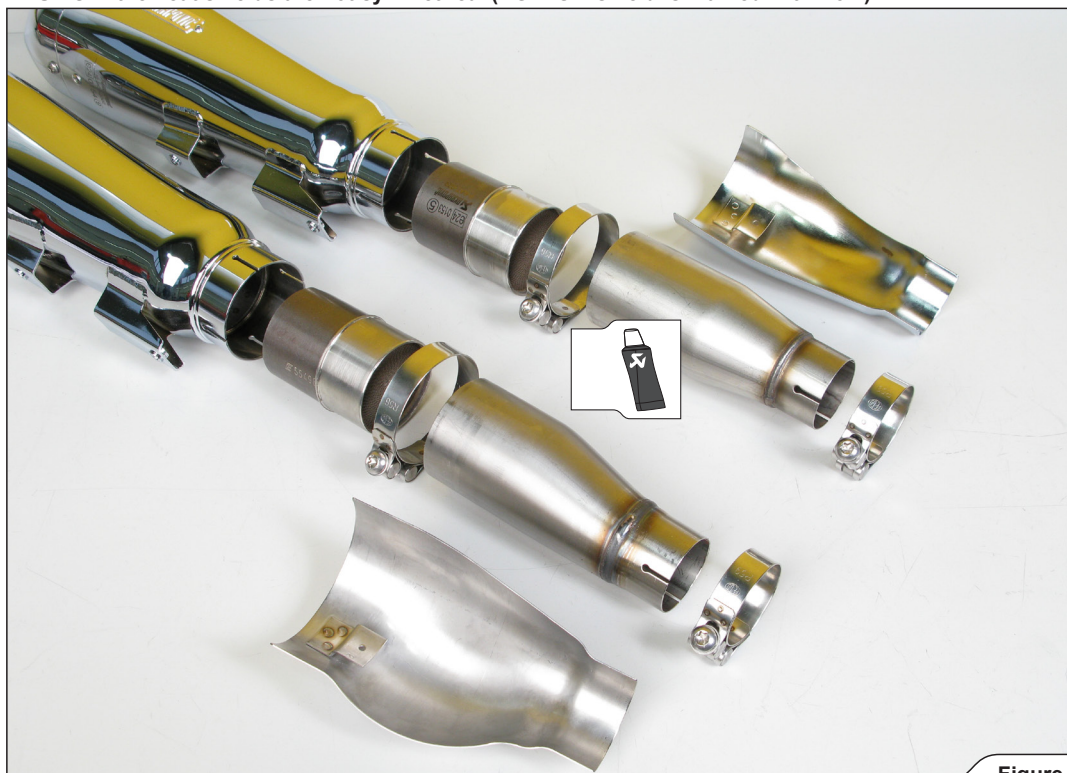

Figure 6
1. Correctly assemble the mufflers, catalytic converters, link pipes, clamps and heat shields (Figure 6, 7).